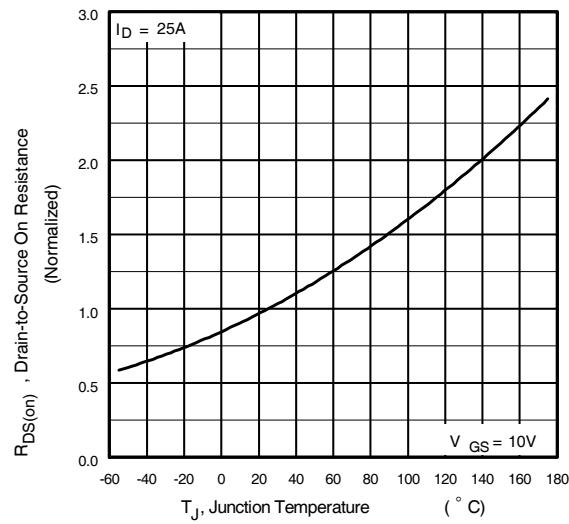

Fig 10. Normalized On-Resistance
| t_f | Fall Time | — | 37 | — | | $V_{\text{GS}} = 5.0\text{V}$, See Fig. 10 ④ |